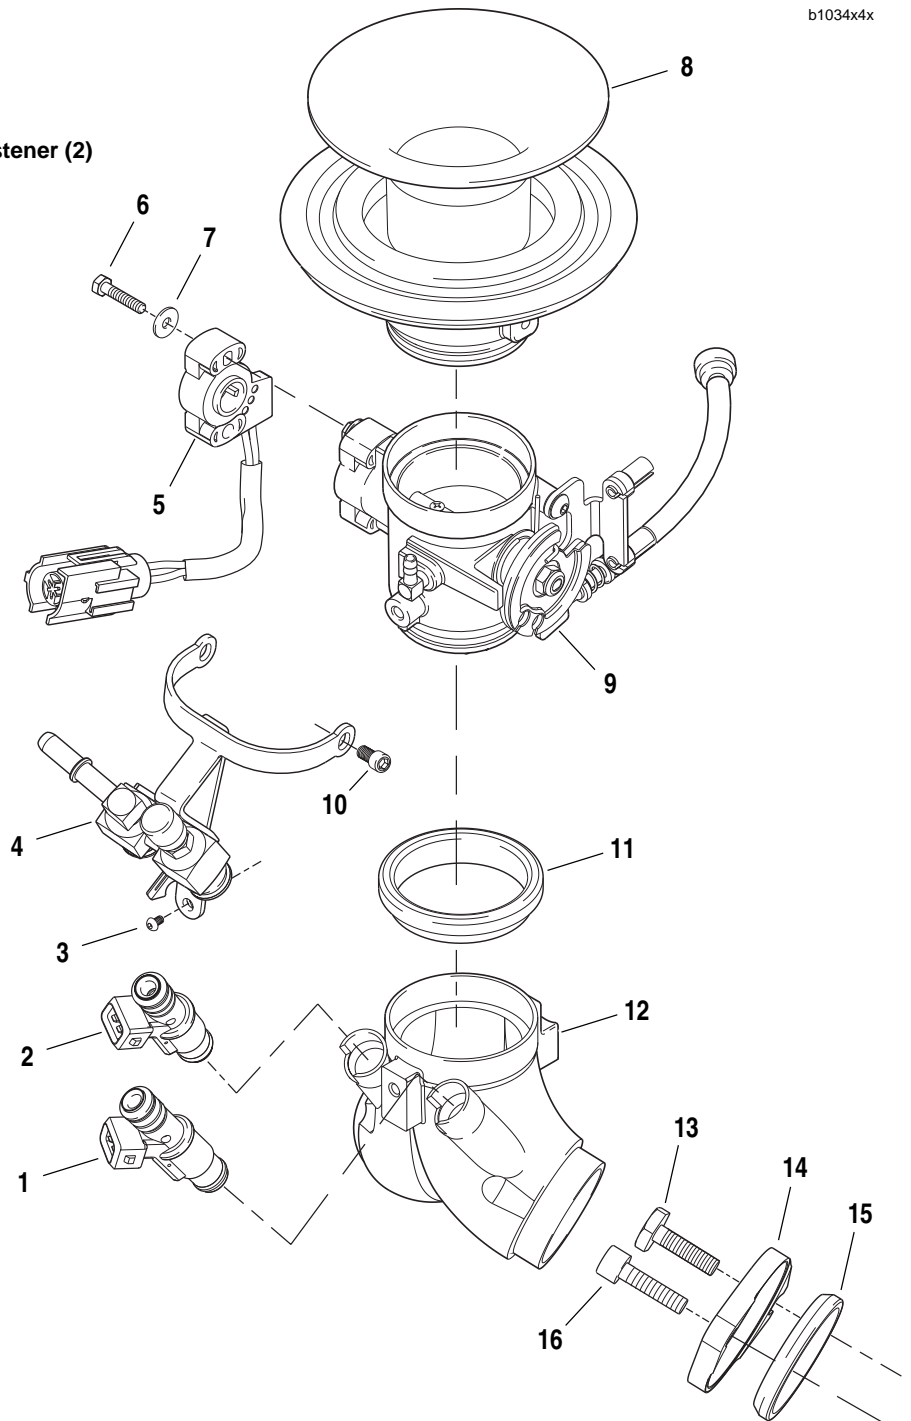

Figure 4-100. Throttle Body/Intake Manifold Assembly
See Figure 4-100. The throttle body consists of the following components:
6. See Figure 4-100. Remove intake flanges (14) from manifold. Remove and discard seals (15).
2. See Figure 4-100. Separate intake manifold (12) from throttle body (9). Discard ring seal (11).